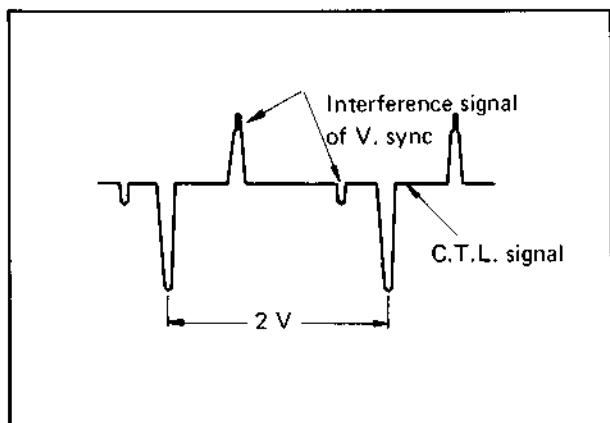

Fig. 6-16 Waveform of control pulse
4. Check that the waveform at TP-3 is observed as shown in Fig. 6-16.